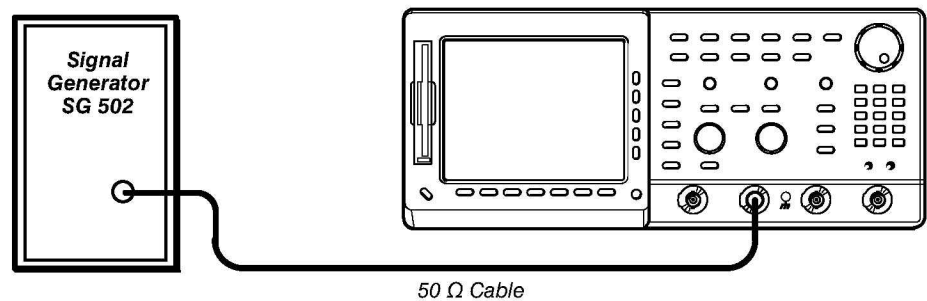

Figure 4-31: 60 Hz Rejection Test Hookup
- Connect the output of the SG 502 to the CH2 input through a 50 Ω cable (see Figure 4-31).